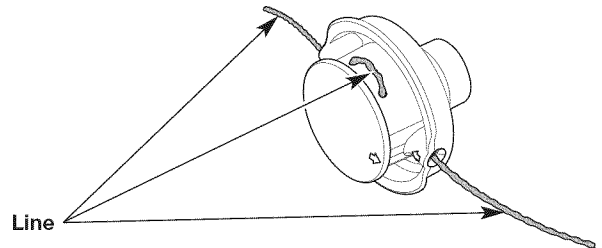

Fig. 9
4. Pull the ends of the line until the line is tight against the cutting head. Make sure the ends of the line are of equal length (Fig. 9).